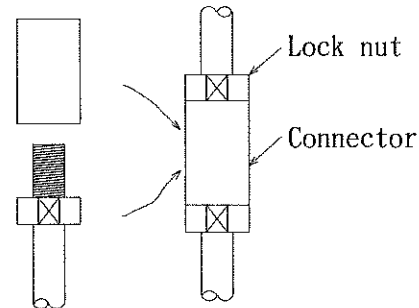

Fig. 10
(2) In case of Hastelloy (See Fig. 10)